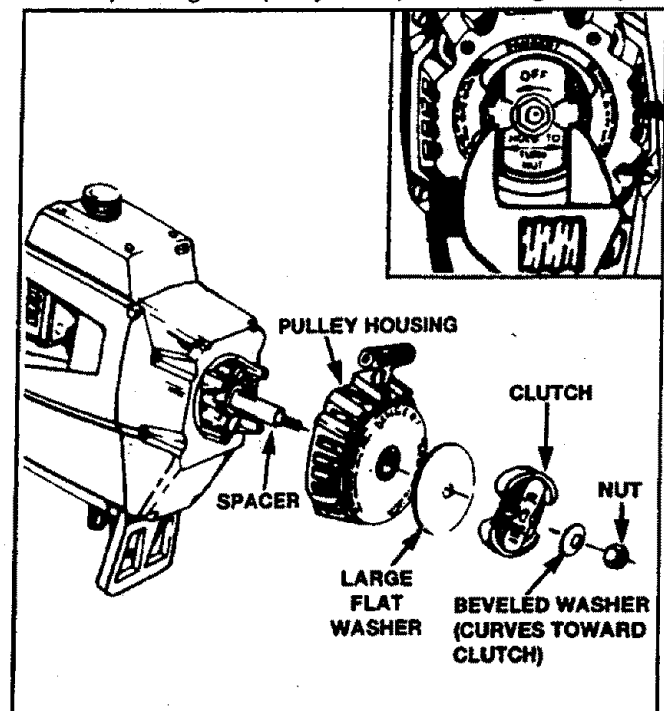

Figure 32
- Remove one (1) screw and throttle handle from the handlebar.
- Hold the "flats" of the clutch with an adjustable wrench and remove the nut counterclockwise with a 9/16" socket wrench. (See inset Figure 32.)